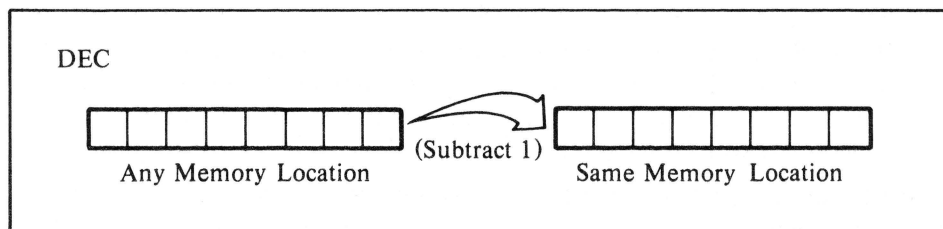

Figure 9-4. Decrement memory quantity
- **DEC** — Decrements (subtracts 1 from) the quantity of a specified memory location (see Figure 9-4).